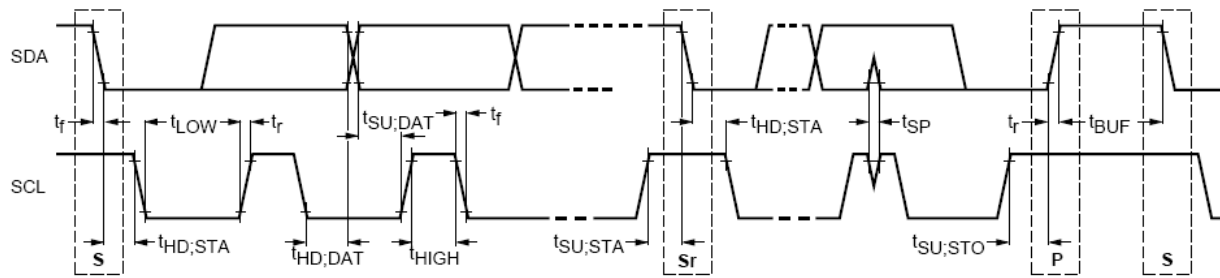
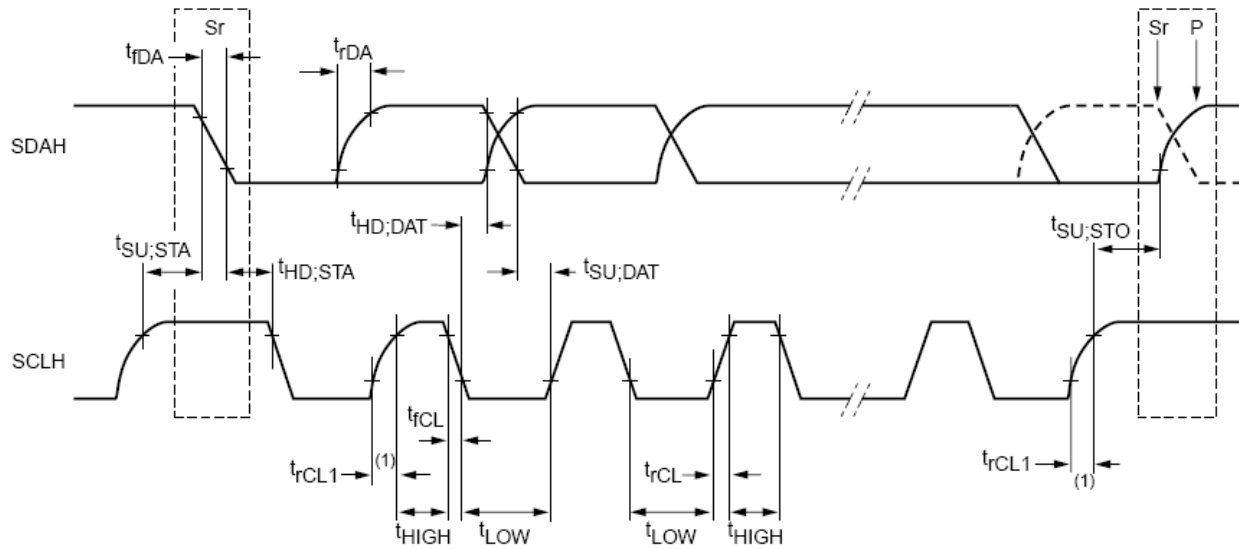

Figure 2. AC Characteristics, Standard and Fast Modes
Figure 3. AC Characteristics, High Speed Mode
4. Refer to Figure 2 and Figure 3 for more information on AC characteristics.